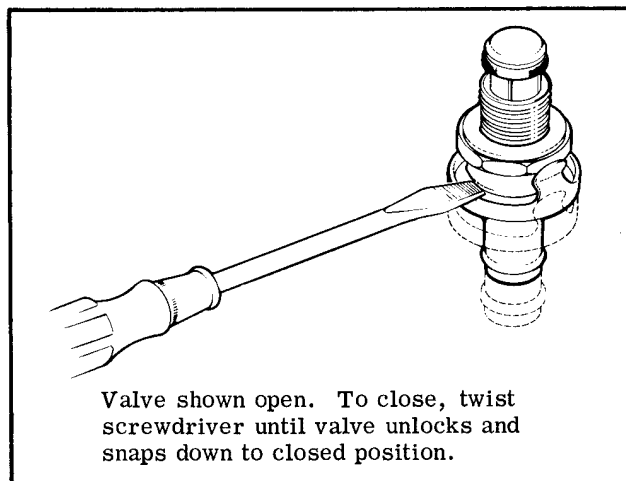

Figure 2-3. Quick-Drain Valve
Do not install quick-drain valve shown in figure 2-3 in the front engine. The valve will interfere with nose landing gear retraction.
- f. After oil has drained, close quick-drain valve as shown in figure 2-3. Remove hose or funnel.